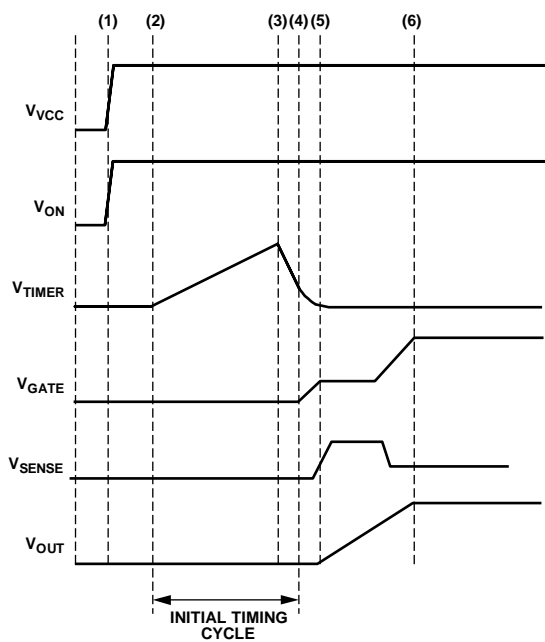

Figure 33. Startup (ON Asserts as Power Is Applied)
When VCC is first connected to the backplane supply, the internal supply (Time Point (1) in Figure 33) of the ADM1178 must be charged up. A very short time later (significantly less than 1 ms), the internal supply is fully up and, because the undervoltage lockout voltage has been exceeded at VCC, the device comes out of reset. During this first short reset period, the GATE pin is held down with a 25 mA pull-down current, and the TIMER pin is pulled down with a 100  $\mu\text{A}$  current sink.
When the initial timing cycle terminates, the device is ready to start a hot swap operation (assuming the ON pin is asserted). In the example shown in Figure 33, the ON pin was asserted at the same time as VCC was applied, so the hot swap operation starts immediately after Time Point (4). At this point the FET gate is charged up with a 12  $\mu$ A current source.